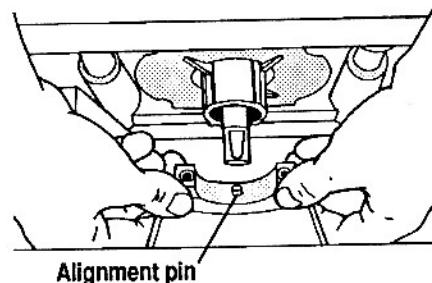

Fig. 38
49. Notice the alignment pin in Fig. 38. Place the lower saw guard on the motor spindle housing, fitting the alignment pin into the hole located at the bottom of the spindle housing.